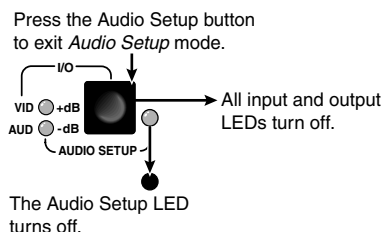

Figure 3-38 — Exit Audio Setup mode
- Press and release the Audio Setup button (figure 3-38). All audio changes are saved.